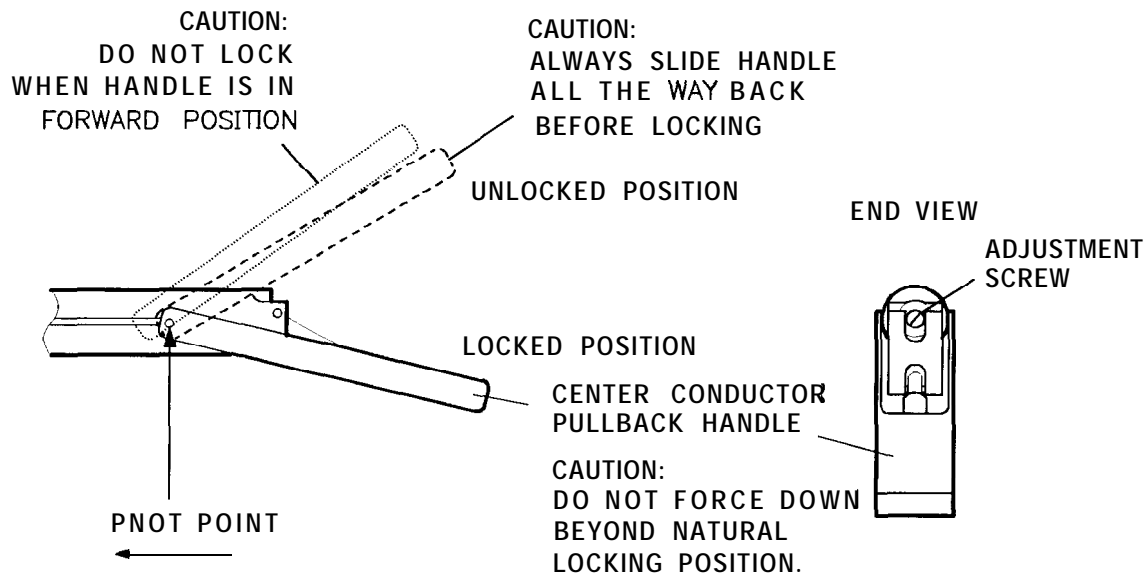

Figure 4-6. Setting the Sliding Load Pin Depth
2. Refer to Figure 4-6. Set the center conductor pullback to the locked position. With a small screwdriver, gently turn the center conductor pin depth adjustment screw until the gage pointer reads -3.81 micrometers (-1.5×10^{-4} inches).